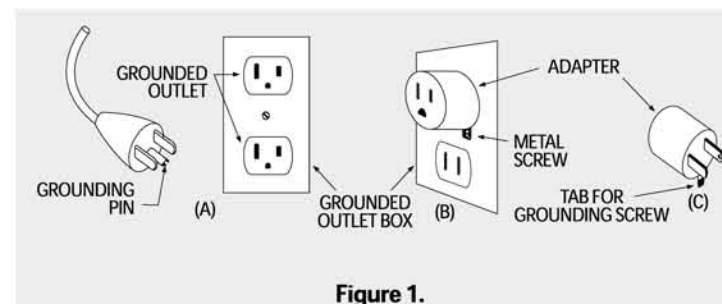

Figure 1.
**Grounded, cord-connected products, rated 15 A or more, intended for use on a nominal 120 V supply circuit.** This product is for use on a nominal 120 V circuit, and has a grounding plug that looks like the plug illustrated in Figure 1(A). A temporary adapter, which looks like the adapter illustrated in Figure 1(B) and (C), may be used to connect this plug to a 2-pole receptacle as shown in Figure 1(B), if a properly grounded outlet is not available.
The temporary adapter should be used only until a properly grounded outlet, Figure 1(A), can be installed by a qualified electrician. The green tab, nut or other connector extending from the adapter must be connected to a permanent ground, such as a properly grounded outlet box cover. Whenever the adapter is used, it must be held in place by the screw.